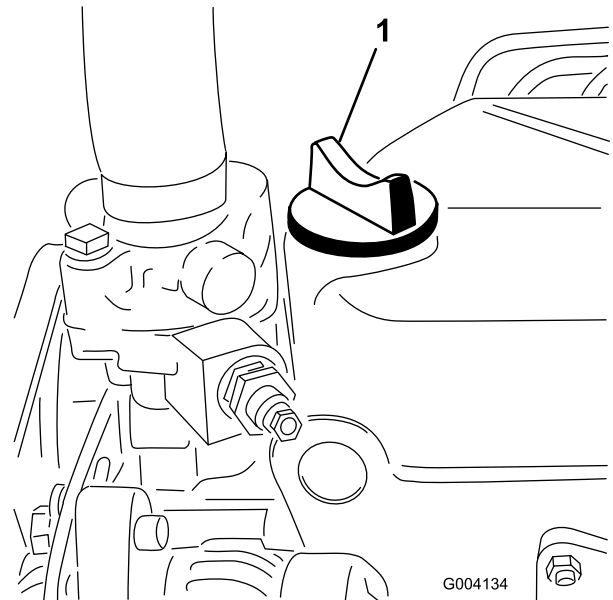

Figure 22
5. If the oil level is below the Full mark, remove the fill cap (Figure 22) and add oil until the level reaches the FULL mark on dipstick. **Do not overfill.**